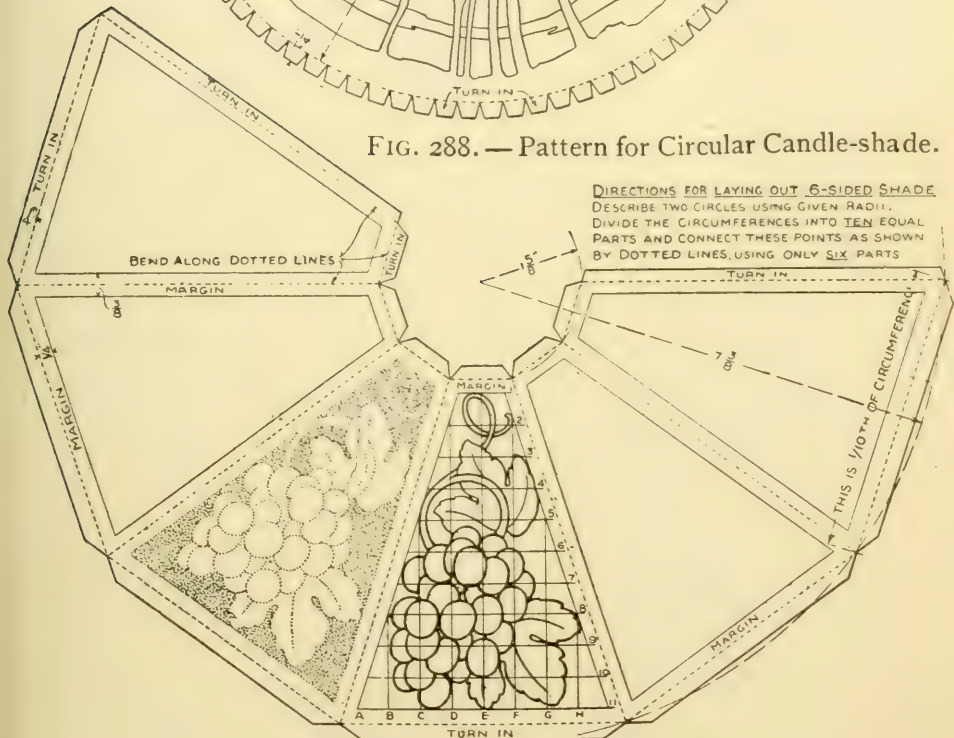

FIG. 287. — Pattern for Lamp-shade of Six Sides.
**A Lamp-shade** of six sides, and Fig. 287 how the sides appear when laid out on a sheet of brass. The design is shown upon two of the panels, in the pattern: on one as it will appear when the background is perforated, and on the other with the squares marked off upon it to help you in enlarging it. After laying